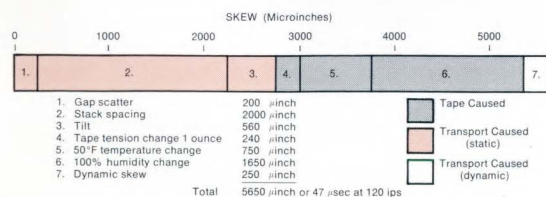

FIGURE 1. Worst case skew for a staggered head assembly. Most errors are caused by the tolerances related to the 1.5-inch stack-to-stack spacing.
Figure 1 is a compilation of the various skew contributions in an absolute worst case condition. It is divided into 1) errors caused by the tape dimensional change, 2) errors caused by transport and head static errors, and 3) errors caused by transport dynamics. It should be noted that the contribution of the tape back material (polyester) due to extreme environmental changes is approximately as great as all other manufacturing tolerances on the head assembly. The majority of these contributions are of largest effect on the stack-to-stack spacing of 1.5 inches, and this is the real cause of misregistry problems.
**In-Line Heads.** The minimization of these errors by the use of an in-line head assembly can be illustrated by Figure 2. This is the same data as Figure 1 with the exception that the errors caused by the 1.5-inch spacing, the tolerances on it and changes to it, are eliminated by the expedient of manufacturing a head with all tracks in a single stack. However, manufacturing a single in-line head stack with the same number of tracks as two staggered head stacks creates two main problems. First, it requires that the amount of intertrack shielding be reduced. This increases the crosstalk between data channels. Second, the track width must be reduced which cuts the signal-to-noise ratio, since it is impossible to make a full width track because there is only a 20-mil space between them. Little or no room remains for shielding, mounting, or wirewinding. FM recording is desirable when using in-line heads because its inherent signal limiting characteristics help compensate for the increased crosstalk and reduced signal-to-noise ratio. Bandwidth will be reduced with FM as compared to Direct, so the trade off with dynamic range must be weighed against this. An alternative to special in-line heads is to put all data needing precise time correlation in the same head stack.